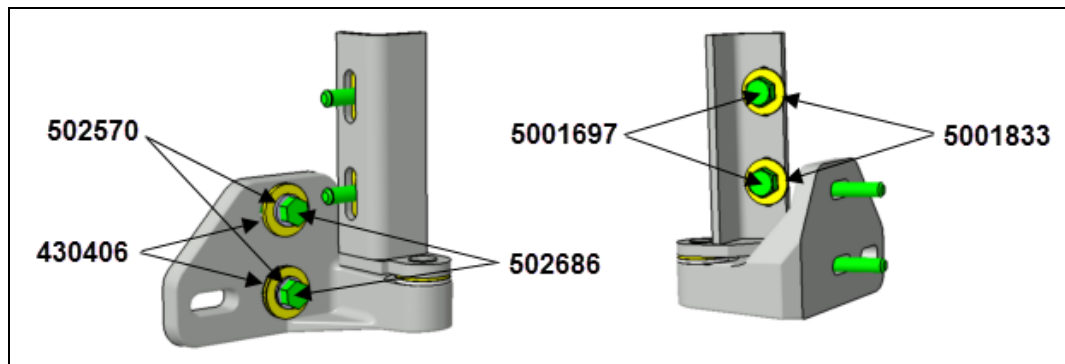

FIG.15 NEW HARDWARE TO BE INSTALLED - LOWER HINGE
- New M6 bolts and washers (**5001697** & **5001833**) are used at the door mounting points (Fig.15).
- New M6 bolts, locks & washers (**502686**, **502570** & **430406**) are used at the vehicle structure point (Fig.15).